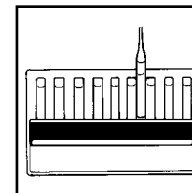

Figure 6
11. Obtain a test result by placing the ampoule between the color standards until the best color match is found. Fig. 6